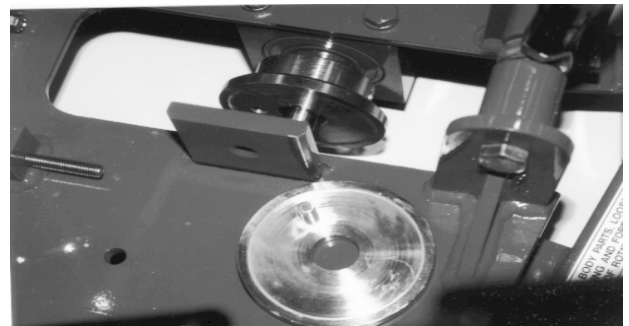

FIGURE 4
5) Inspect the hub flange, hub body and arbor shaft for proper structural integrity. Determine that all components are free from surface imperfections including, but not limited to corrosion, cracks, warpage and material build-ups. Remove any material build-up from the mating surfaces of the hub components. Replace any questionable component with a factory approved replacement part only. If there are any questions regarding the suitability of a specific component, contact the Customer Service Department for assistance BEFORE utilizing the Crack Saw. There is no charge for this service. FIGURE 4.